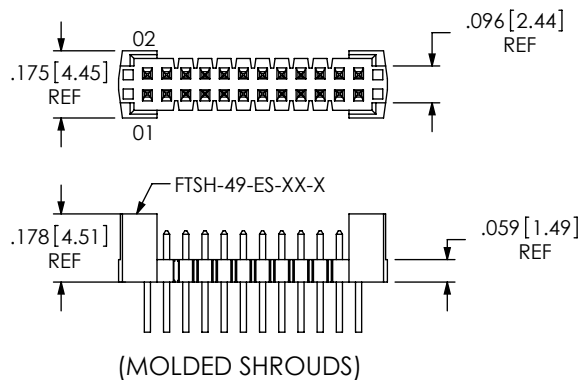

FIG 3
-EJ: EJECTOR SHROUDS: (SEE FIG 3, SHT 2)